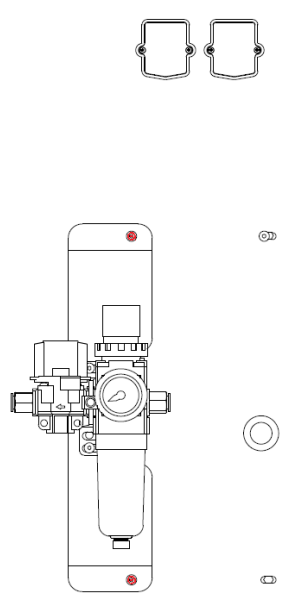

Fig. 10 Installing of ATU F420
1. Remove the two bolts from the rear case of the printer and screw the mounting plate and the air treatment unit to the printer (Fig. 10, red).